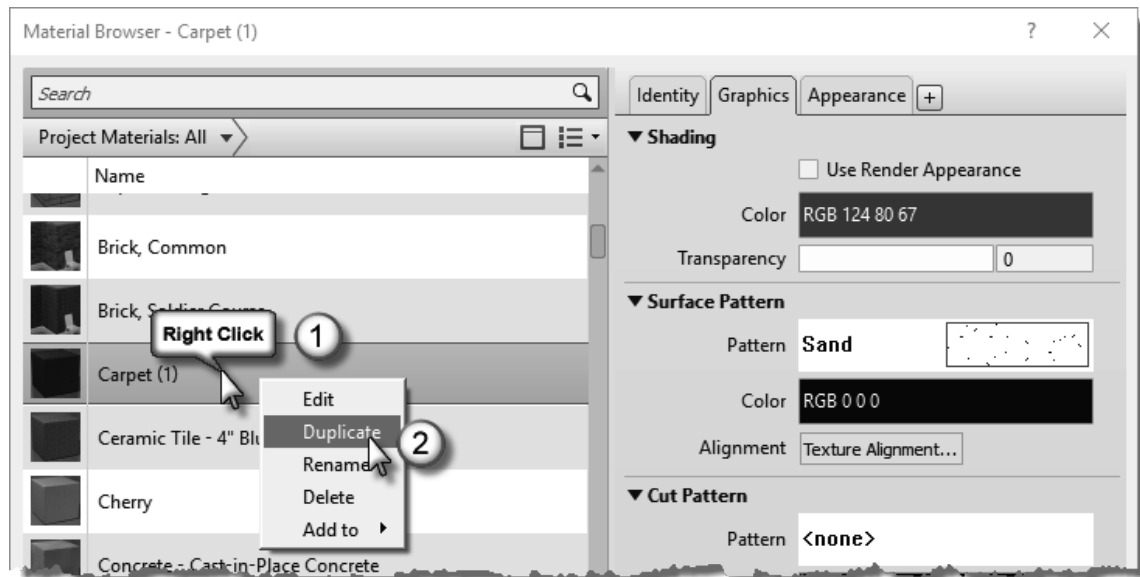

FIGURE 4-3.2 Duplicating a material
4. In the *Project Materials* list, select *Carpet (1)*.
5. Right-click *Carpet (1)* and then click the **Duplicate** in the pop-up menu (Figure 4-3.2).
You now have an image file which represents the specified carpet style available on your computer or network. You will assign this image to the *Appearance* asset. But first you will duplicate the *Appearance* asset because the one named “Red” (Figure 4-3.2) is not applicable.